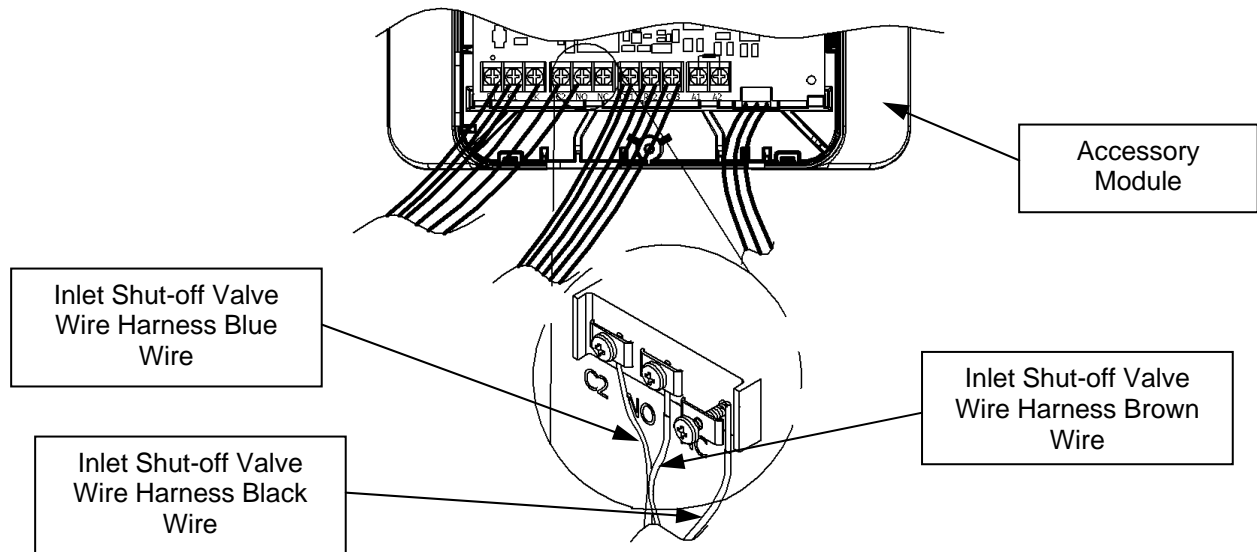

Figure 80
Step 13: Insert the black wire, from the Inlet Shut-off Valve wire harness, under the screw labeled "NC," as shown in Figure 80.